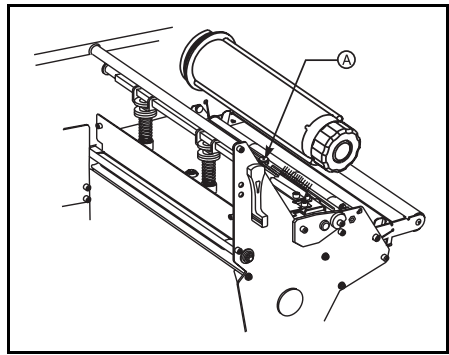

Figure 9. Upper Media Sensor
Media Sensor (Fig. 9 A and 10 A)	Air blow
3. Moisten an applicator with Zebra Technologies Corporation-recommended solvent. Wipe the printhead (A) elements from end to end. (The printhead elements form the grayish/black strip just behind the chrome strip.) Allow a few seconds for the solvent to evaporate.
4. Rotate the Platen Roller (B) and clean thoroughly with solvent.
5. Brush/vacuum any paper lint and dust away from the rollers, the Media Sensor (Fig. 9 A and 10 A), the Black-Mark Sensor (F), and the Ribbon Sensors (C).
1. Remove the ribbon. Locate the Upper Media Sensor (Fig. 9-A).